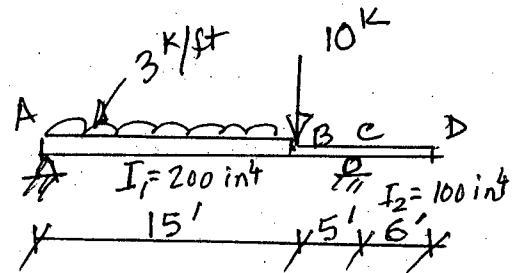

Fig. 9
10. Calculate change in slope at "D" of the beam shown in Fig. 9. Given  $I_1 = 200 \text{ in}^4$  (AB),  $I_2 = 100 \text{ in}^4$  (BD) and  $E = 30,000 \text{ ksi}$ . (28)